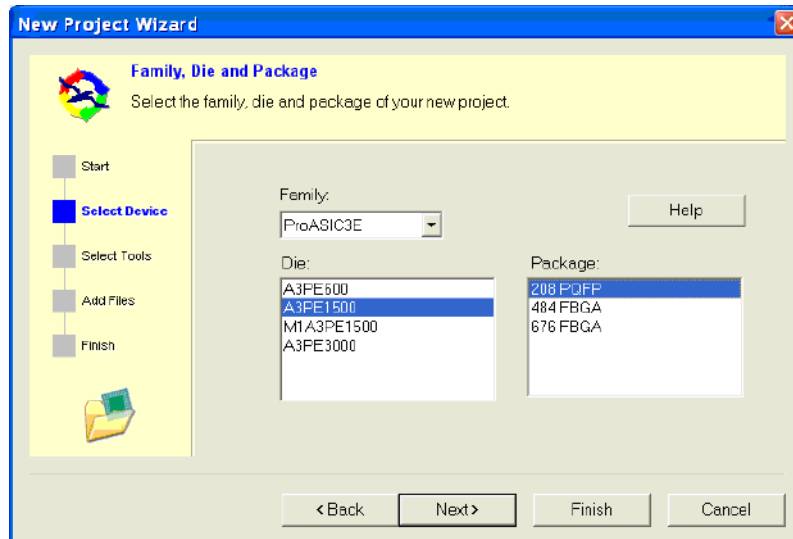

Figure 2-8. Family, Die and Package Dialog Box
- Select the A3PE1500 die and 208 PQFP package (Figure 2-8).